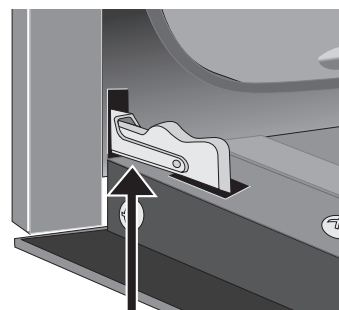

Figure 39: Hinge in locked position
4. Push both the door hinge locks up towards and into the oven frame to the locked position (Figure 39).